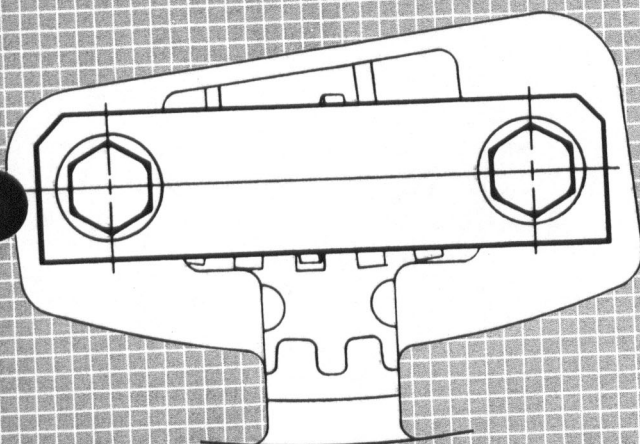

FIGURE 59
**E.** Install right bolt and tighten both bolts. (Fig. 59) (30-35 lbs. ft. torque)